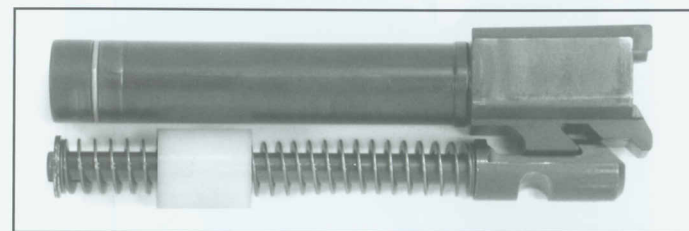

Figure 24
2. Install the recoil/buffer spring assembly into the slide so that the front of the recoil spring guide rod engages in the small hole (ARROW) provided in the front of the slide (Figure 24).
4. Push the rear of the recoil/buffer spring assembly forward enough so that the recoil spring retainer can be engaged on the shelf provided on the front of the barrel locking block. (Figure 24 shows this relationship).